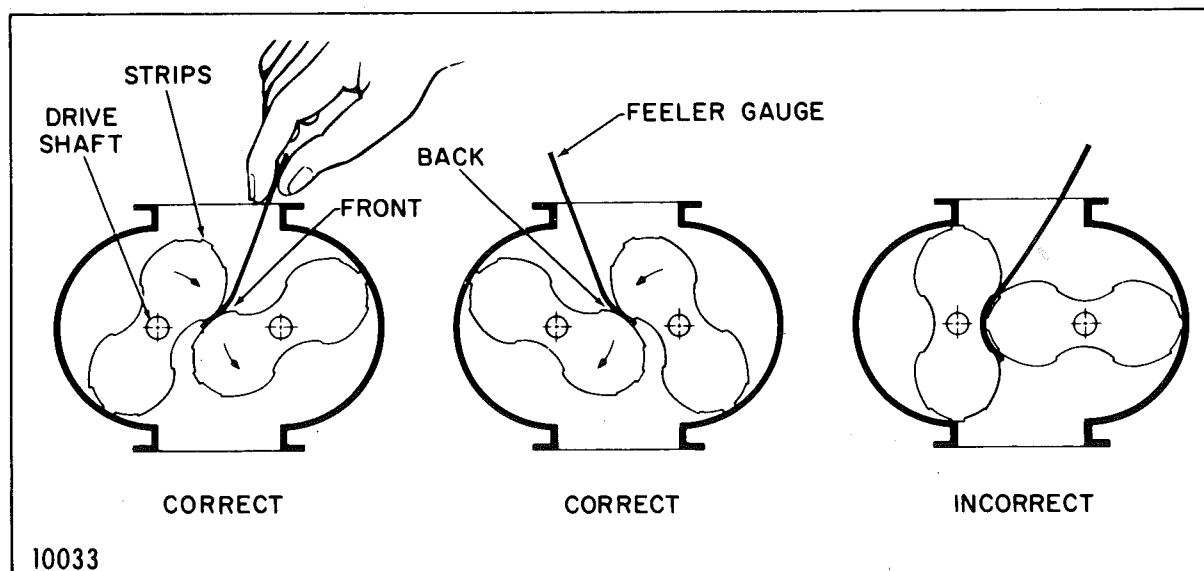

Figure 5 — Identification of Front and Back Impeller Clearances, and Method of Using Feeler Gauge
1. Drain all oil from the gearhouse by removing drain plug (23) in the bottom. Remove gearhouse by taking out all cap screws (17) in its flange. It may be necessary to bump the sides with a wood block or mallet to break the flange joint.
8. Rotate the impellers to make sure they do not bump, then measure front and back lobe clearances with feelers when impellers are in positions shown in Figure 5. These two clearances should be equal when the impellers are properly "timed", and should be within the limits given in Table 5.